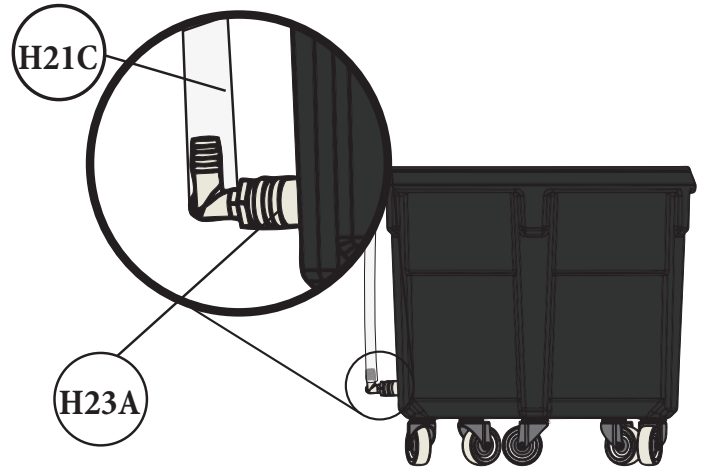

FIG. 23
Attach the long end of the Tube Assembly (H21C) onto the Nylon Elbow (H23A) installed on the lower section of the Drum (K). Push the Hose onto the fitting so that all barbs are covered [FIG. 23].